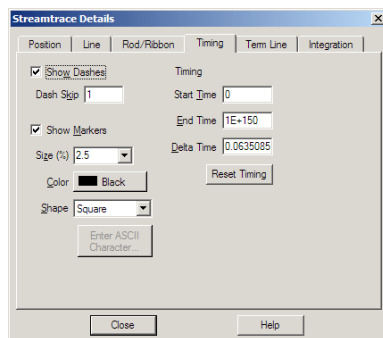

Figure 12-11. The Timing page of the Streamtrace Details dialog.
2. Click Timing (Timing tab in Windows). The Timing page of the Streamtrace Details dialog appears, as shown in Figure 12-11.